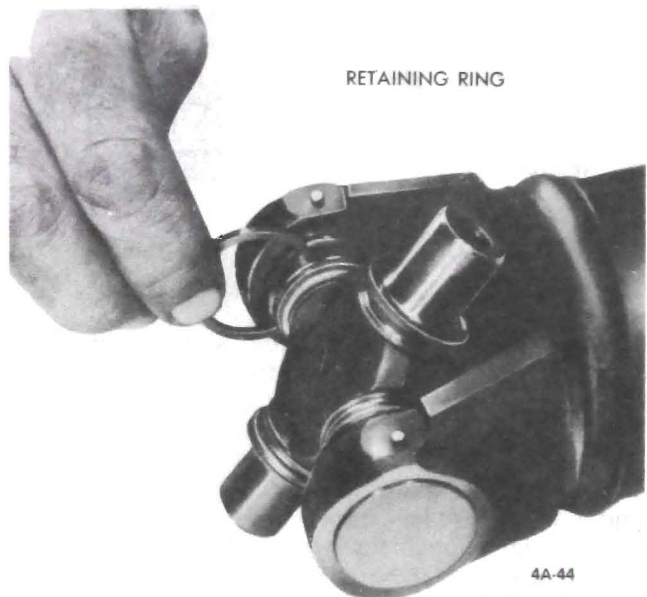

Figure 4A-44 Installing Retaining Ring
5. As soon as one snap ring groove clears the inside of the yoke, stop pressing and snap the retaining ring into place. See Figure 4A-44.
6. Continue to press until the opposite retaining ring can be snapped into place. If difficulty is encountered, strike the yoke sharply with a hammer to aid in seating the rings. See Figure 4A-45.